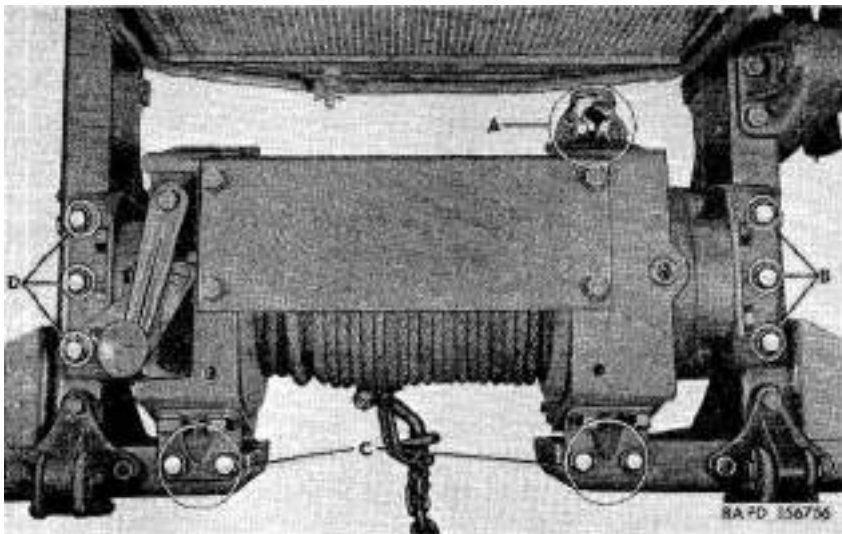

Figure 23. Winch disconnect points.
- (1) Remove cotter pin and shear pin from winch end yoke on winch drive shaft (A, *fig. 23*).
- (2) Remove locking wire and loosen set screw on collar at splined end of drive shaft assembly. Push drive shaft assembly to rear to disengage front universal joint assembly from winch worm shaft.
- (3) Remove cap screws and lock washers from *winch-to-frame* brackets and *winch-to-bumper* brackets (10 cap screws and lock washers) (B, C, and D, *fig. 23*). Lift winch from frame.